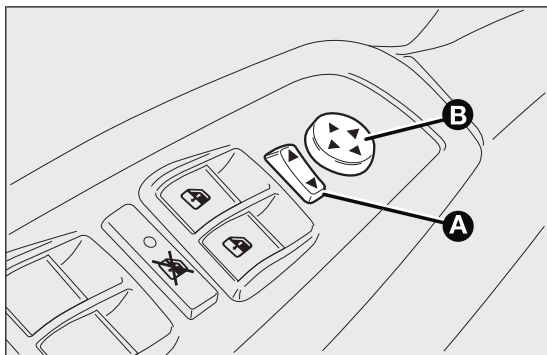

fig. 23
- use selector A fig. 23 to select the mirror (left or right) to be adjusted;